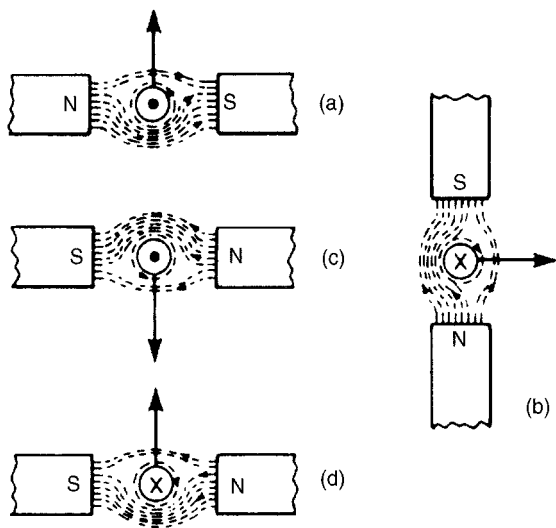

Figure 8.16
- The direction of the main magnetic field is from north to south, i.e. left to right. The current is flowing towards the viewer, and using the screw rule, the direction of the field is anticlockwise. Hence either by Fleming's left-hand rule, or by sketching the interacting magnetic field as shown in Fig. 8.16(a), the direction of the force on the conductor is seen to be upward.
- Using a similar method to part (a) it is seen that the force on the conductor is to the right – see Fig. 8.16(b).
- (c) Using Fleming's left-hand rule, or by sketching as in Fig. 8.16(c), it is seen that the current is toward the viewer, i.e. out of the paper.
- (d) Similar to part (c), the polarity of the magnetic system is as shown in Fig. 8.16(d).